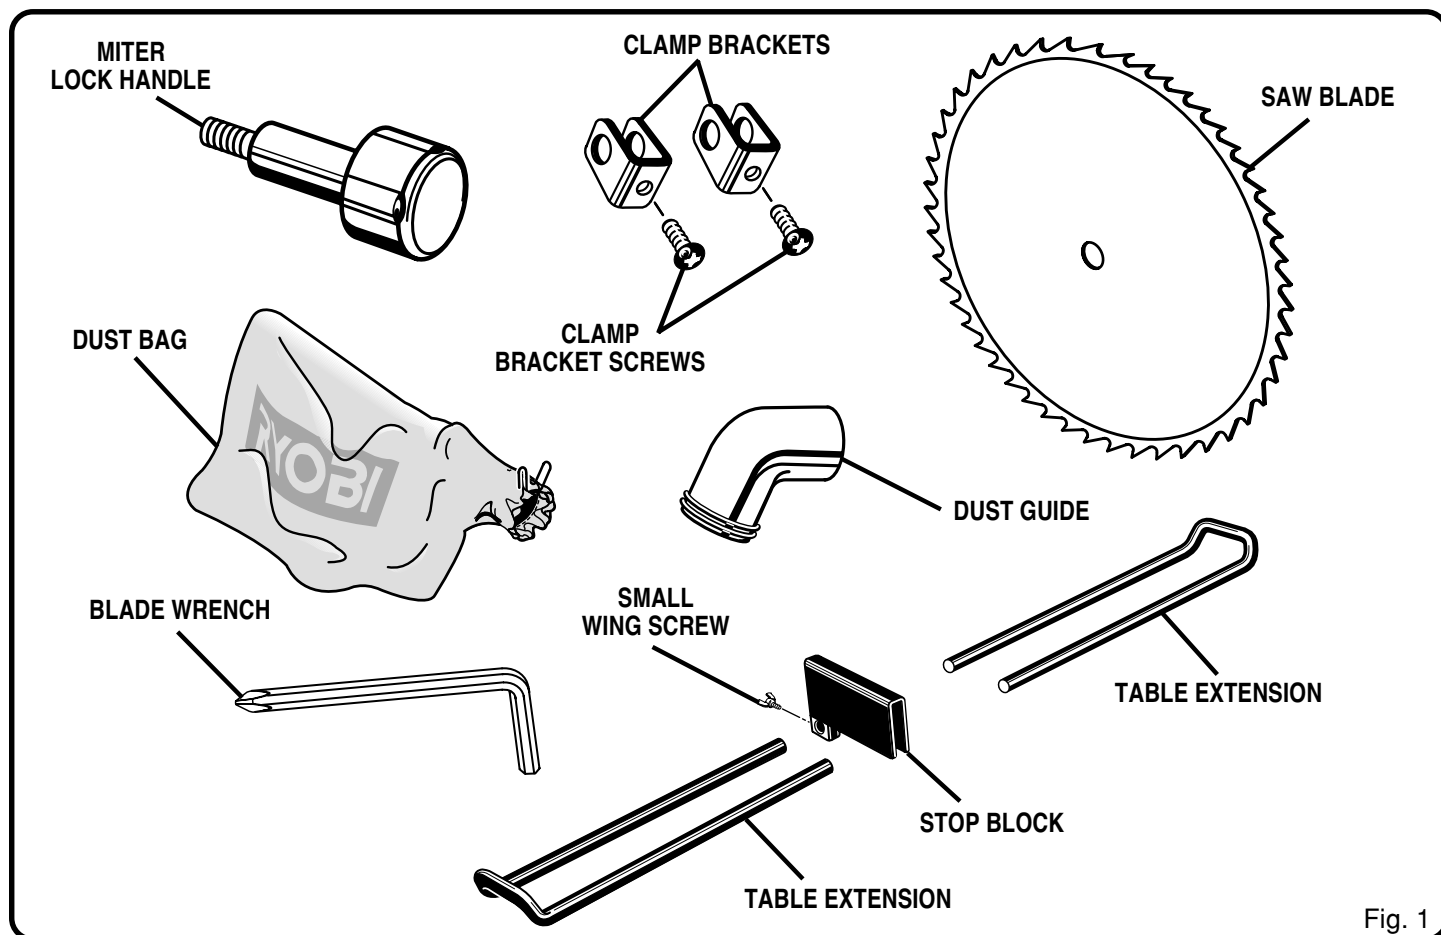

Fig. 1
- Remove all loose parts from the carton. Separate and check with the list of Loose Parts. *See Figure 1.*